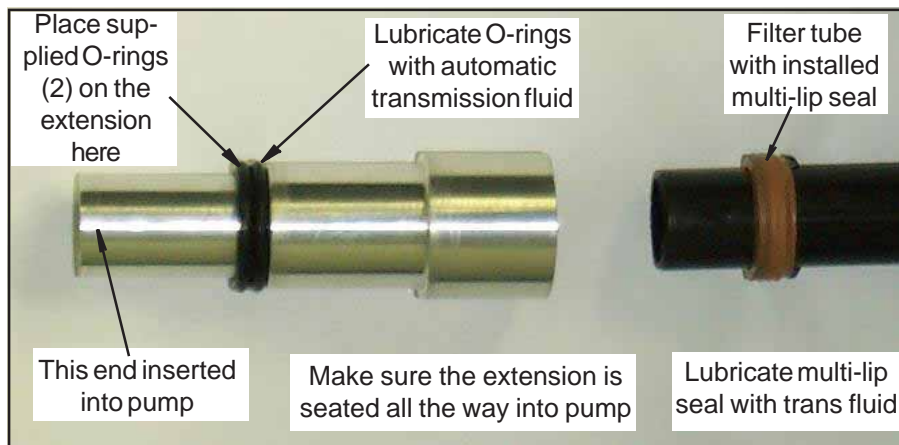

Figure 2
STEP 4. Install the supplied o-rings on the extension tube supplied with the pan. **See Figure 2.** This pan should be installed with a new filter. It is recommended to use the TH-700R4 filter with the pre-installed multi-lip seal to prevent air leaks. Lubricate the seal on the filter and the o-rings with transmission fluid. Place the extension tube on the new oil filter. Install the assembly into the oil pump bore.